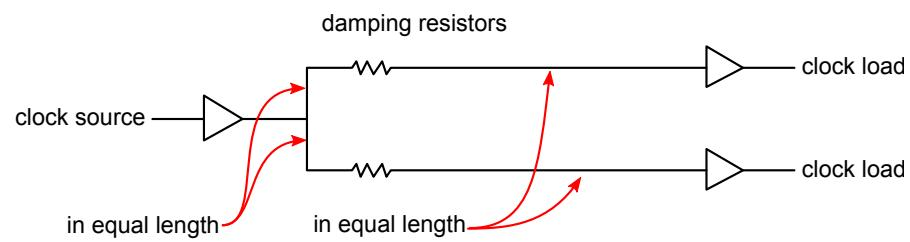

Figure 9: Series termination for multiple clock loads
- Series terminations (damping resistors) are needed for all clock signals (typically  $0 \Omega$  to  $47 \Omega$ ). When two loads are driven by one clock signal, the series termination layout is shown in Figure 9. When multiple loads (more than two) are applied, a clock buffer solution is preferred.